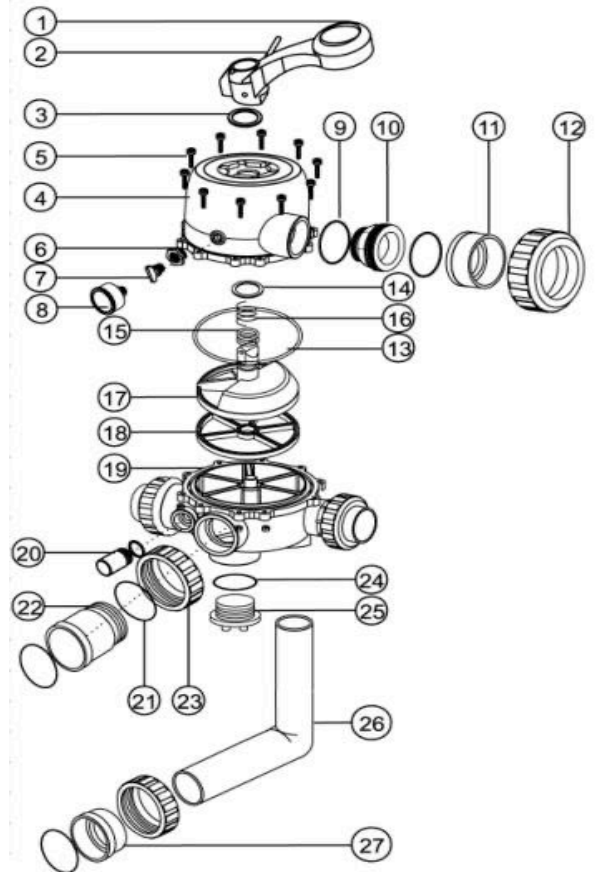

Figure 3
2. Item No.14-Washer for spring is damaged.	2. Replace item No.14 washer for spring.(Please see Figure 3)
2. If it was damaged please replace it.(See Figure 3, Item No.18-Spider Gasket).